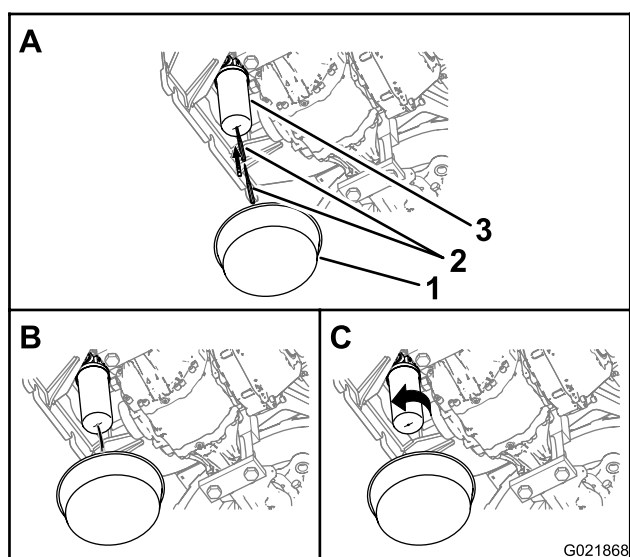

Figure 95
Note: You can access the hydraulic-return filter from underneath the rear of the machine (Figure 95).
1. Place a container under the hydraulic-pressure filter (Figure 95).
2. Puncture the bottom of the hydraulic-pressure filter and allow the residual hydraulic fluid to drain in the container (Figure 95).
3. Rotate the hydraulic-return filter counterclockwise and remove the filter (Figure 95).